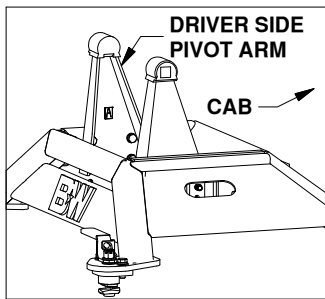
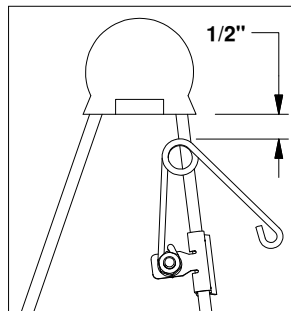

Figure B3: Base View
Figure B4: Driver side pivot arm.
- Attach kit.** Locate the flange which will be closest to the truck cab on the driver side pivot arm, see Figure B3. The clip should be placed so that when the spring's coil is in the line with the edge of the arm there will be 1/2" of clearance between the bottom of the polyurethane bushing and the top of the spring, see Figure B4. Drive the clip securely onto the flange with a hammer.